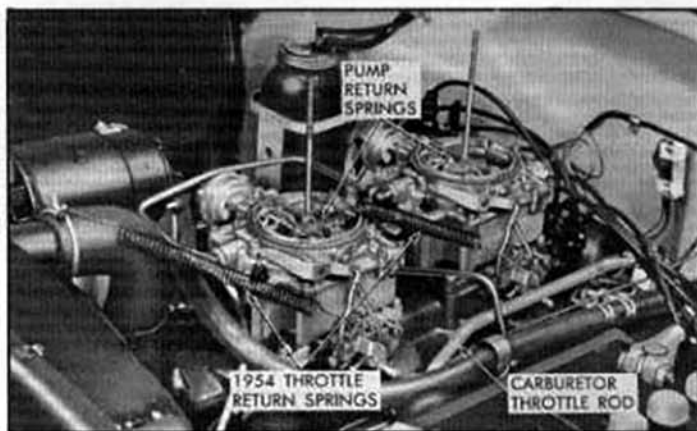

Fig. 2 Springs Installed on Chokes and Throttles
2. Hold choke valves fully open. (This can be done by meshing a pump return spring over top edge of choke valve and dividing wall of air horn as shown in Fig. 2.)
7. Back off idle speed adjusting screws until throttle valves are fully closed. Throttles can be held closed with springs to facilitate operation. (1954 throttle return springs are satisfactory, see Fig. 2.)